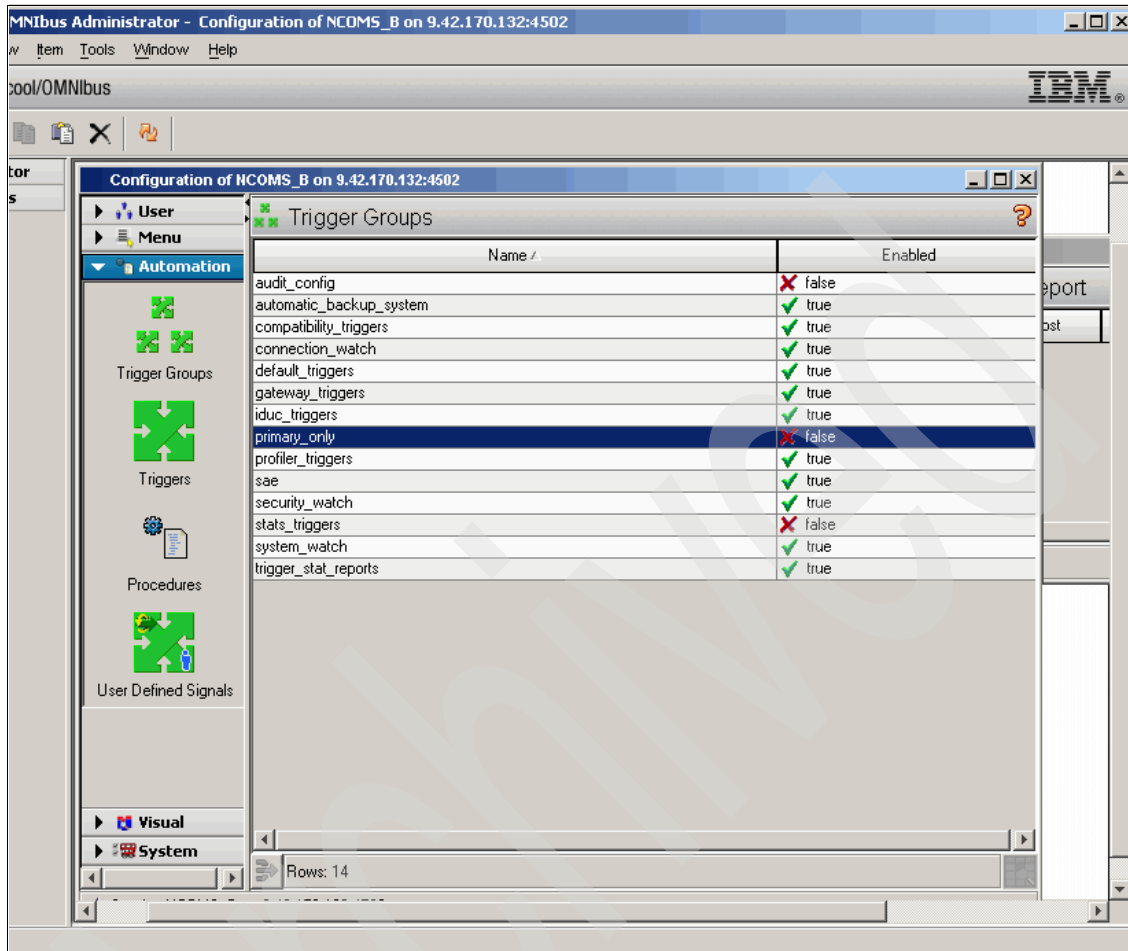

Figure 4-51 Primary trigger group disabled on backup server
- On the backup ObjectServer, disable the primary_only trigger group for automation failover and failback, as shown in Figure 4-51 on page 157.